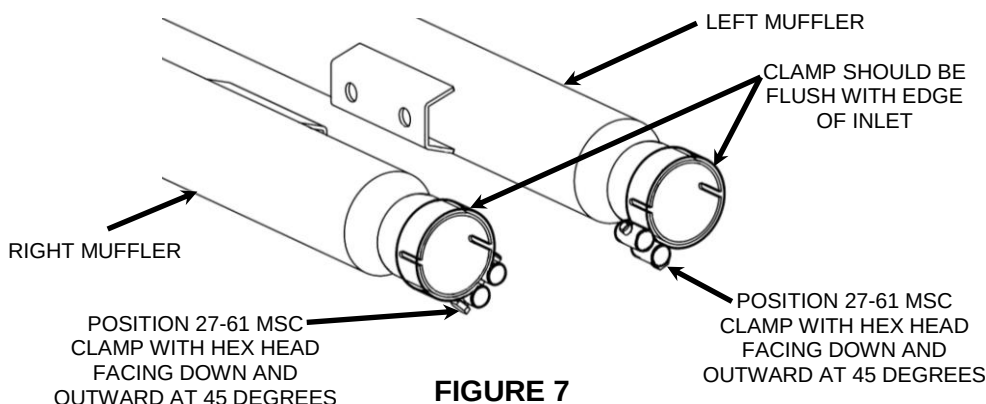
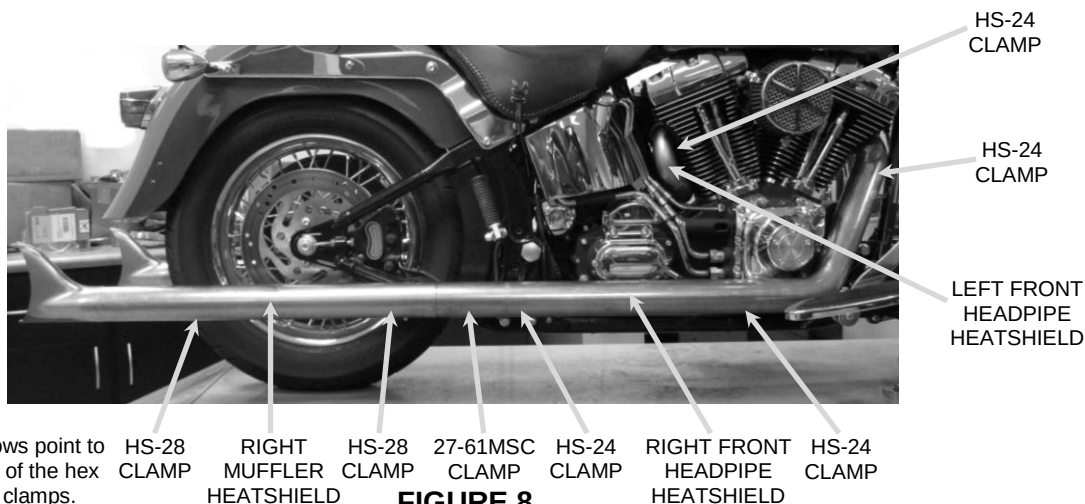
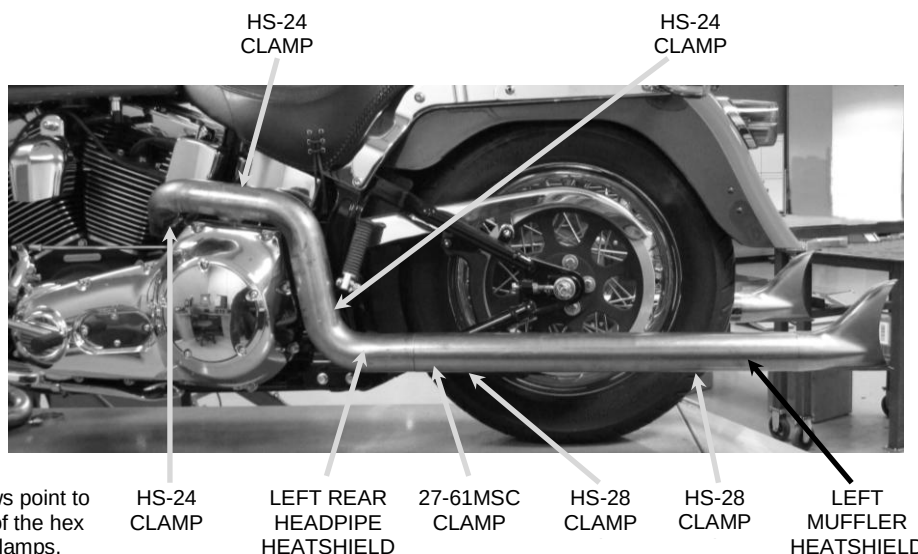

FIGURE 7
FIGURE 8
FIGURE 9
22. Position the supplied #27-61 MSC muffler clamp with hex head facing down and outward at a 45 degree angle as shown in **FIGURE 7** and slide onto the left and right rear muffler inlet tubes. (NOTE: The clamps should be flush with the end of the muffler inlets when tightened. See **FIGURE 7**. If the clamps are slid past the slots on the muffler inlets the clamps will not tighten properly).
25. Make sure the left and right headpipes and mufflers are straight and parallel with the ground. Also make sure the left front and left rear headpipes have the proper clearance between the rear cylinder fins and the rear frame. From the rear of the motorcycle make sure the muffler outlets are flush and level with each other. When all the pipes are aligned tighten in the following order; headpipe flanges to the cylinders (slowly tightening opposing nuts), mufflers to the exhaust mount bracket, left rear headpipe clamp, and finally the muffler clamps. (NOTE: The muffler clamps should be flush with the end of the muffler inlet when tightened. See **FIGURE 7**. If the muffler clamps are slid past the slots on the muffler inlets the clamps will not tighten properly).
27. Unscrew the **HS-28** and **HS-24** clamps and feed the tail end of the clamp through the clips on the inside of the heatshields. The larger clamps (**HS-28**) go on the muffler heatshields. The smaller clamps (**HS-24**) go to the headpipe heatshields. See **FIGURE 8** and **FIGURE 9** for proper positioning of the clamps on the heatshields. (NOTE: The arrows point to the positioning of the hex head of the clamps. The hex head of the clamps should be accessible for tightening but not visible when heatshields are mounted to the pipes. To help hide the clamps on the muffler heatshields, rotate the clamps so that the hex head is facing down and outward at a 45 degree angle.)
28. Install the right headpipe heatshield first followed by the right muffler heatshield second. See **FIGURE 8**. Slide the rear portion of the muffler heatshield forward over the muffler while gently pushing the front of the muffler heatshield underneath the rear of the right headpipe heatshield. (NOTE: Spread the hose clamps apart slightly to make it easier to slide them over the muffler and headpipes.) Make sure the muffler clamp does not interfere with the heatshield and is aligned as shown in **FIGURE 7**.
30. Align the tapped holes in the side of the fishtail tip with the holes in the muffler heatshield and slide it into the heatshield. (NOTE: If it is difficult to slide the tip into the heatshield loosen the clamps on the muffler heatshield. Failure to do this may cause damage to the tips.) Fasten the tip with (2) of the supplied ¼-20 button head screws making sure there is no gap between the tip and muffler heatshield when tightened.
32. Install the left front headpipe heatshield. See **FIGURE 8**. Make sure the heatshield has even spacing between the rear cylinder fins and the oil lines. When the heatshield is aligned properly tighten the heatshield clamps.
33. Install the left rear headpipe heatshield, left muffler heatshield, and fishtail tip the same way as the right heatshields. Make sure they are properly aligned and that the edges of the heatshields are flush. See **FIGURE 9**.